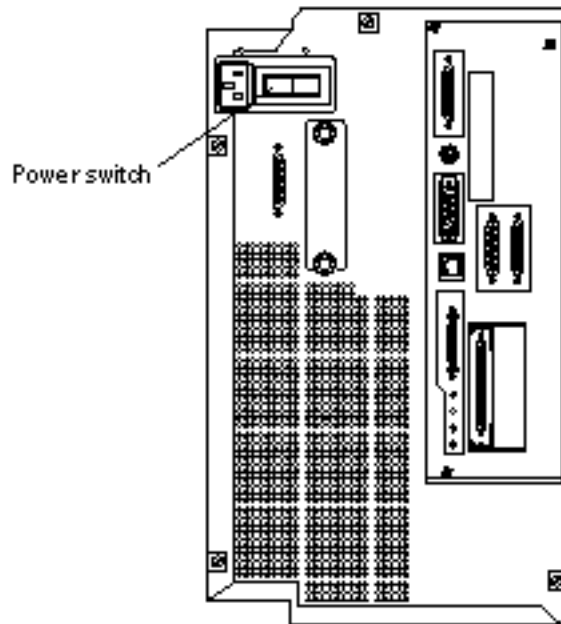

Figure 1-12 Powering On the Netra NFS 150 Server
- 1. Turn the power switch at the rear of the Netra 150 server to the ON () position (Figure 1-12).**